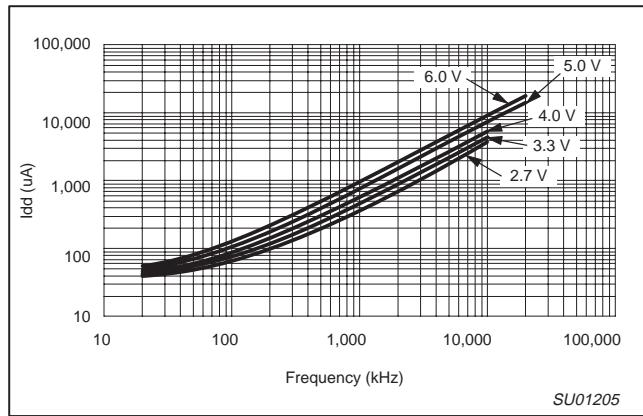

Figure 47. Typical Active  $I_{dd}$  versus frequency (external clock,  $25^{\circ}\text{C}$ ,  $\text{LPEP}=0$ )
1. Total  $I_{dd}$  at sum of oscillator current and active or idle current shown in Figures 47, 48, 49 or 50 as appropriate